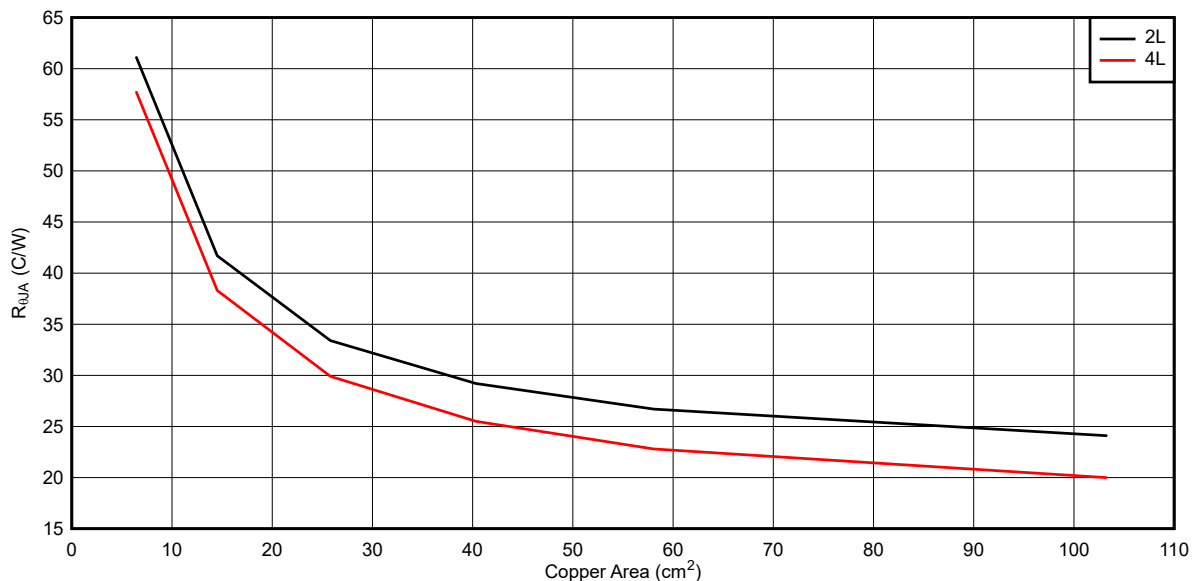

Figure 9-15. Typical $R_{\theta JA}$ vs Copper Area
The LM5012-Q1 features a die attach paddle, or "thermal pad" (EP), to provide a place to solder down to the PCB heat-sinking copper. This provides a good heat conduction path from the regulator junction to the heat sink and must be properly soldered to the PCB heat sink copper. Typical examples of can be found in Figure 9-15. The copper area given in the graph is for each layer. The top and bottom layers are 2-oz copper each, while the inner layers are 1 oz. Remember that the data given in the graph is for illustration purposes only, and the actual performance in any given application depends on all of the previously mentioned factors.
To continue with the design example, assume that the user has an ambient temperature of 70°C and wishes to estimate the required area to keep the device junction temperature below 125°C, at full load. From the curves in Conversion Efficiency \(Linear Scale\). Typical $R_{\theta JA}$ vs Copper Area, an efficiency of about 92% was found at an input voltage of 48 V with an output of 12 V with a 1.75-A load. The efficiency is somewhat less at high junction temperature, so an efficiency of approximately 90% is assumed. This gives a total loss of about 2.3 W. Subtracting out the conduction loss alone for the inductor and catch diode, the user arrives at a device dissipation of 1.54 W. With this information, the user can calculate the required $R_{\theta JA}$ of about 30°C/W. Based on Figure 9-15, the required copper area is about 40 cm², for a two-layer PCB.